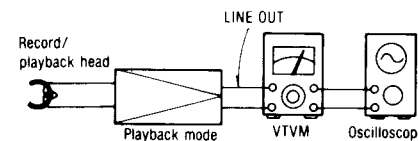

Fig. 2
- Make connections as shown in fig. 2.
- Test equipment connection is shown in fig. 2.